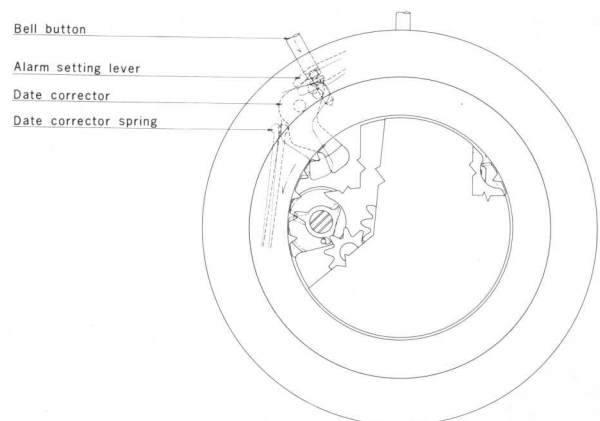

Fig. 8
**4-3. Date setting (Fig. 8)**